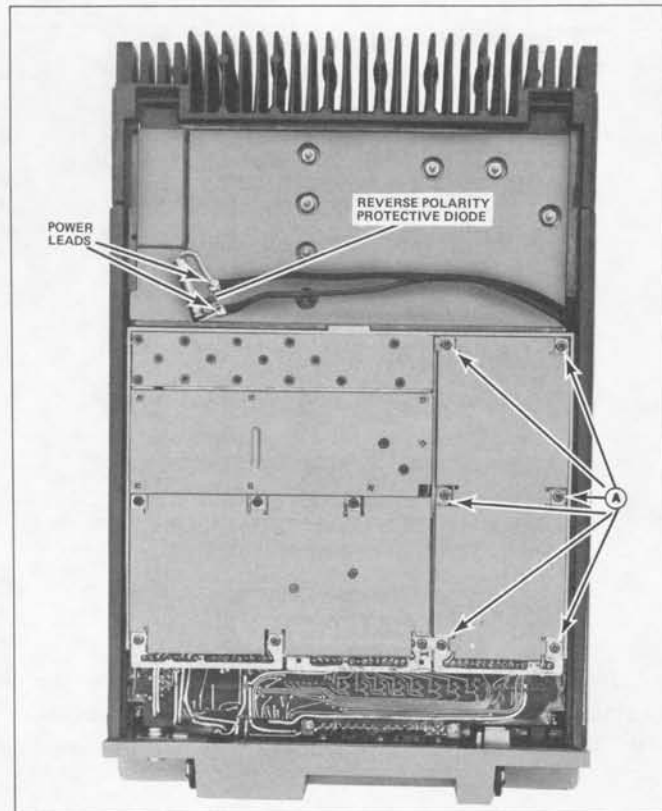

FIGURE 3 - DISASSEMBLY PROCEDURE BOTTOM VIEW
3. To gain access to the bottom of the exciter board, remove the six screws (A) holding the exciter board and its bottom cover to the module mounting frame, and remove the bottom cover (See Figure 3).
2. Remove the six screws (A) holding the exciter board and its bottom cover to the module mounting frame. (Figure 3).